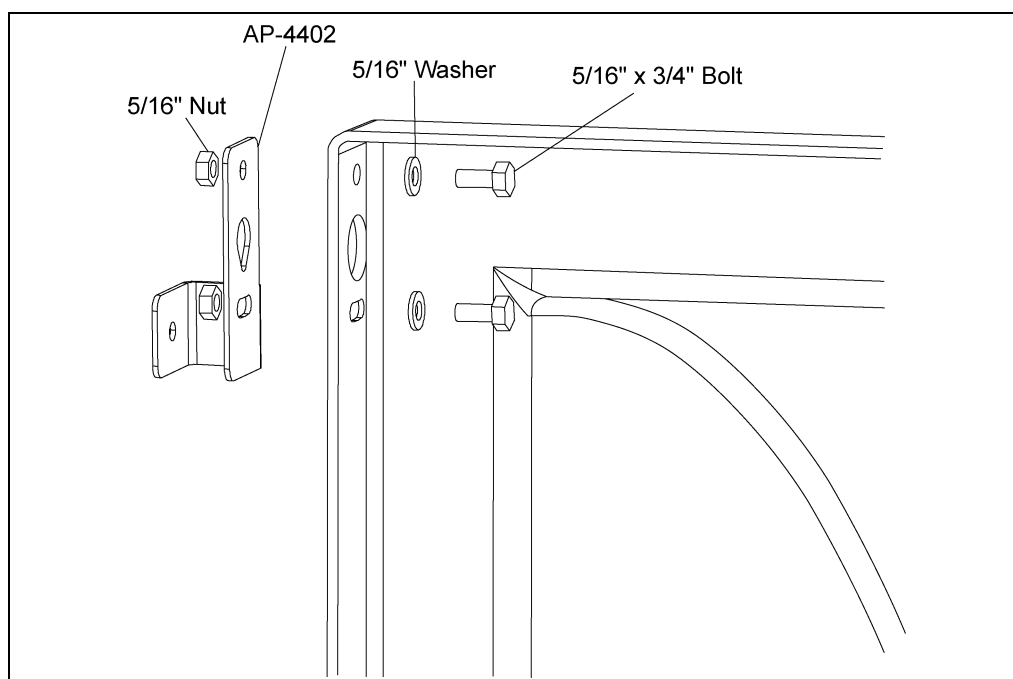
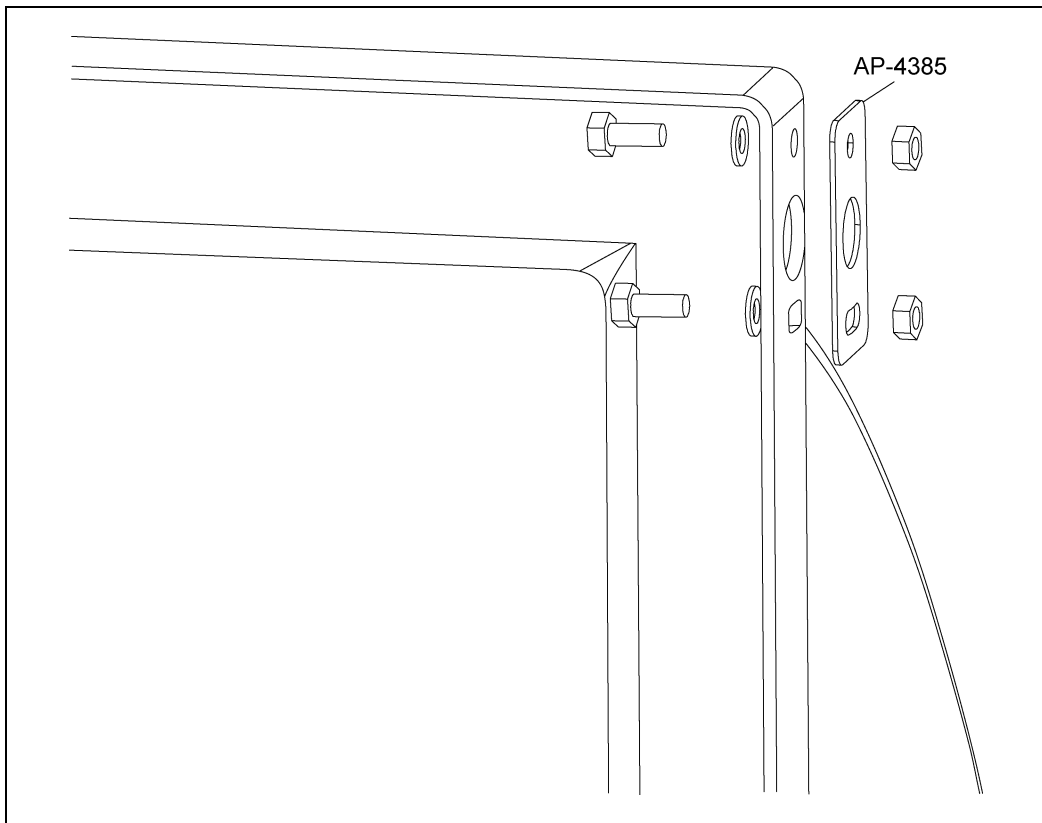

Figure 2F
Figure 2G
Step 4: Install the brackets AP-4402 and AP-4385 using the provided hardware. (See Figure 2F below and Figure 2G on Page 10.)